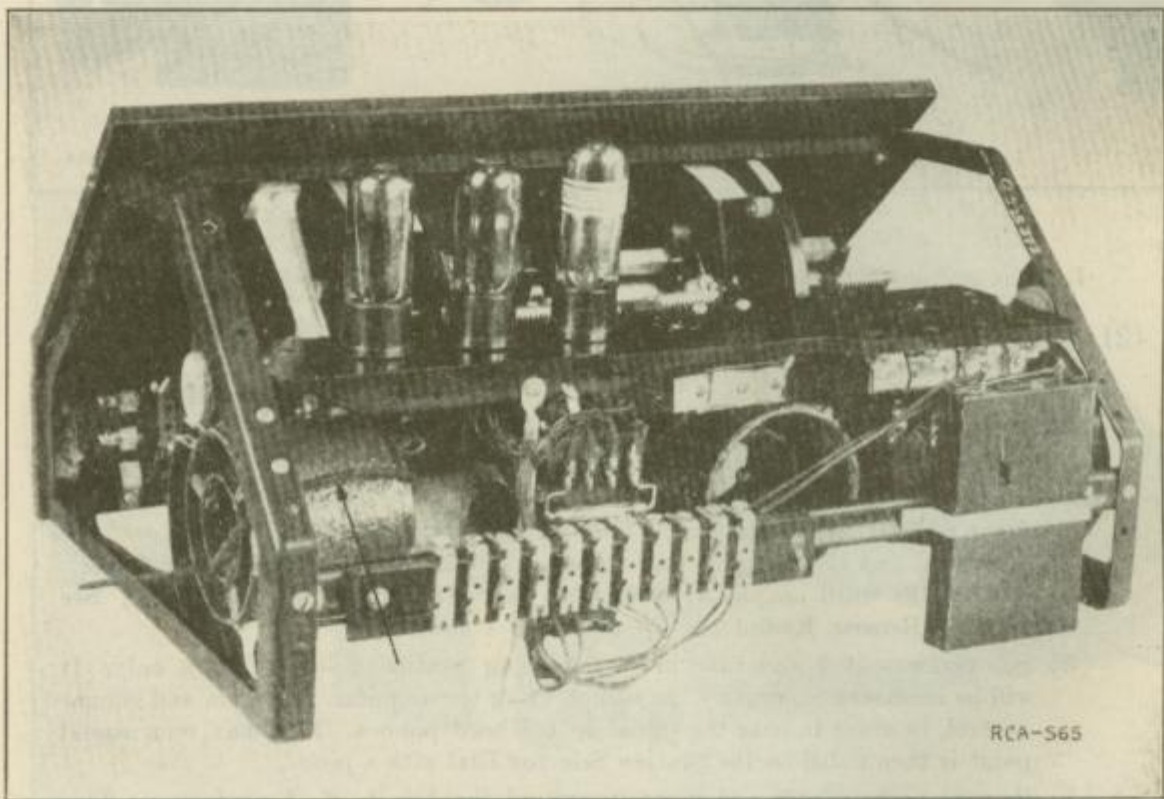

Figure 7
- (1) Remove panel from cabinet and connect up in usual manner with the exception that no antenna or ground are used.
- (2) Put modulated oscillator in operation at 550 K.C., locating it about 20 feet from receiver. One end of the pick-up wire is laid about a foot from the oscillator and the other end wound once around the 2nd R. F. Transformer. This is the third coupler from the left facing the panel from the front. See Fig. 7. Remove Radiotrons from sockets 1 and 2.
- (3) Set verniers at 5 and tune in signal, using Station Selector Drum only. It will be necessary to amplify the signal, using the amplification drum and volume control, in order to hear the signal in the head phones. This maximum signal point is then noted on the Station Selector Dial with a pencil.